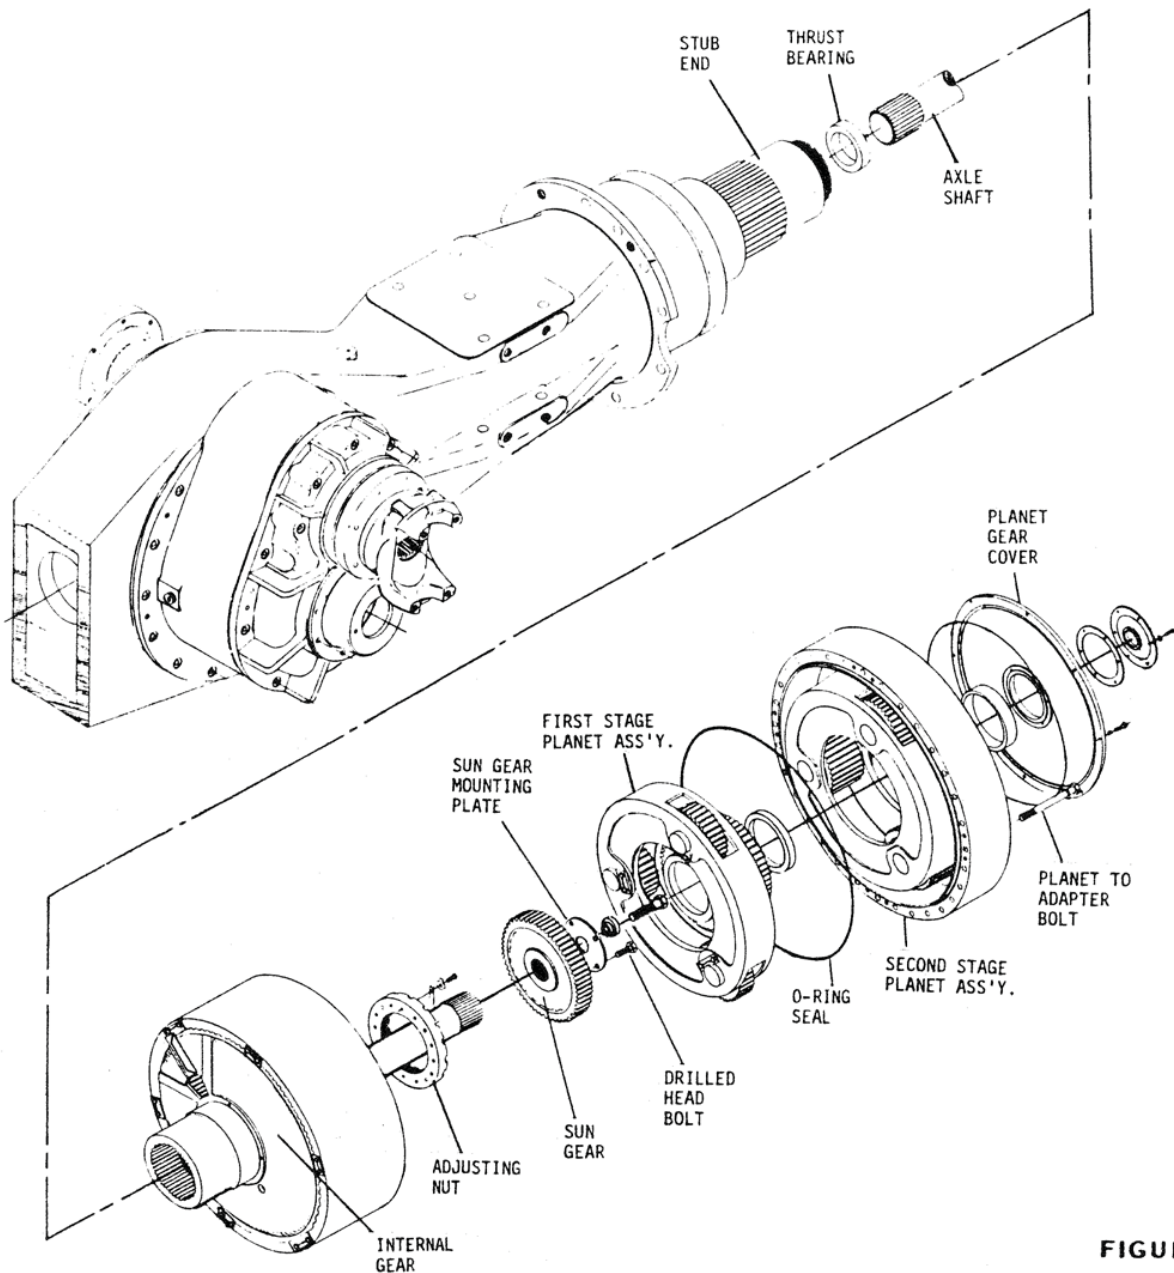

FIGURE 21
F. Internal Gear Installation – Figure 21.
G. Wheel Bearing Adjustment – Figure 21.
H. Axle Shaft and Axle Shaft Sun Gear Installation – Figure 21.
I. First Stage Planet Installation – Figure 21.